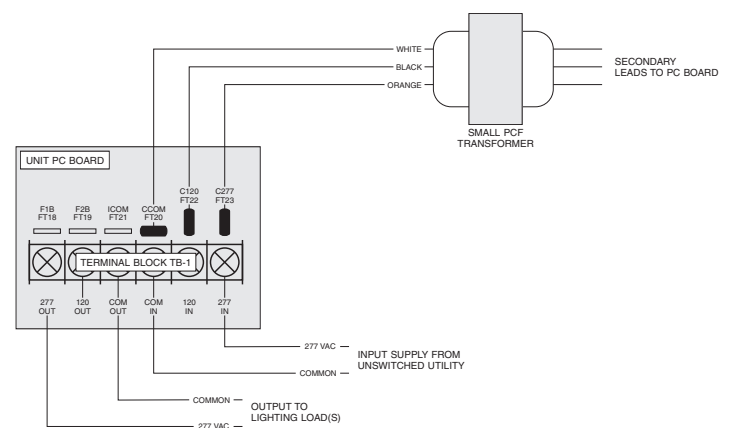
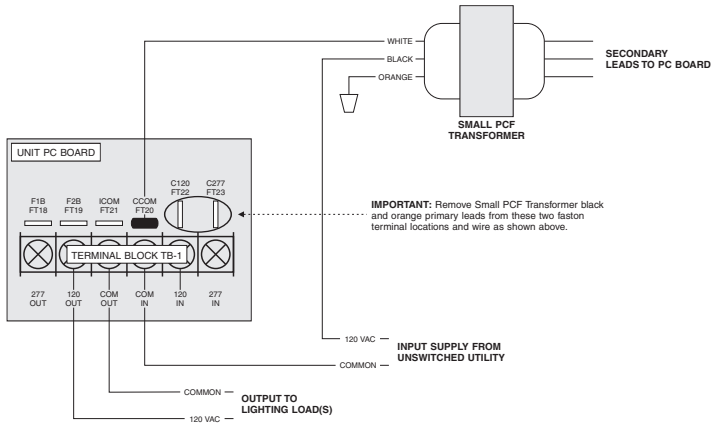

FIGURE 3
FIGURE 4
2. Disconnect the black* and orange* leads of transformer from the PC board. Cut off spade terminals from wire ends and splice appropriate lead to unswitched AC input; choosing either black for 120 volts or orange for 277 volts. Insulate unused wire. Connect input neutral to terminal TB1-4. (See Figure 3 and Figure 4).